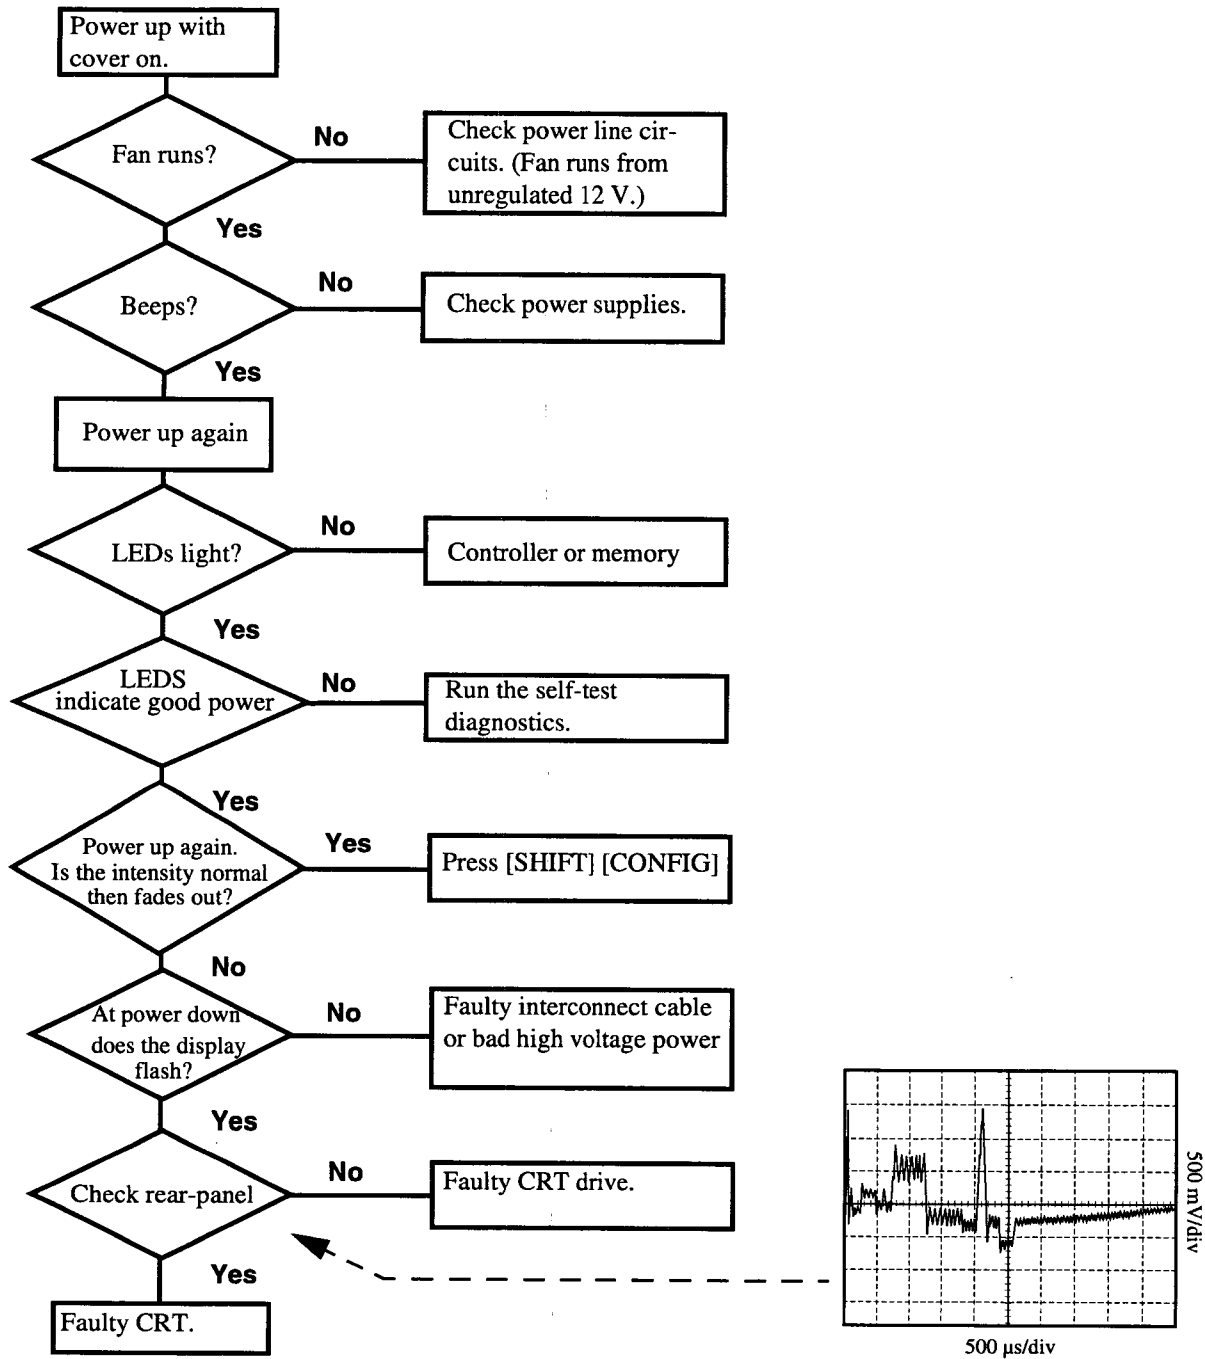

Figure 3 Troubleshooting the CRT Flowchart
- If there is no image on the CRT, troubleshoot using **figure 3, "Troubleshooting the CRT Flowchart," on page 66.**